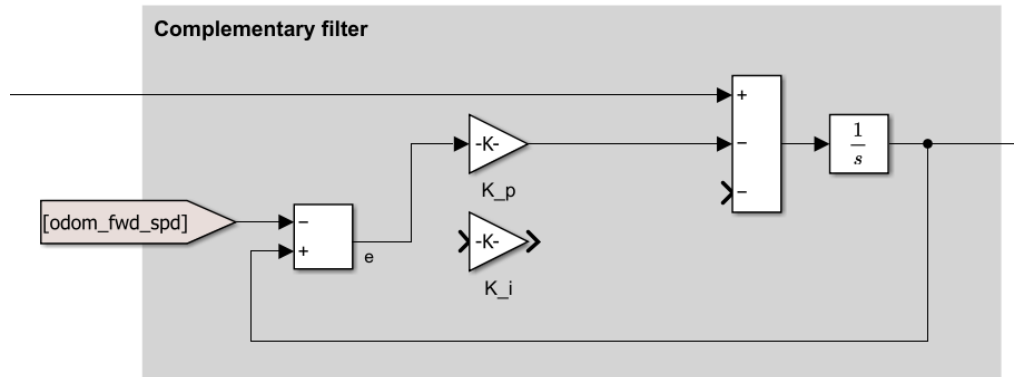

Figure 5: Proportional controller implementation
7. Now you will fuse the estimates from the individual sensors by correcting for the observed error in the accelerometer-based estimate using a proportional controller with the odometry-based estimate as the reference. In the Complementary Filter section, complete the connections shown in Figure 5: connect the output of the integrator to the + input of the first sum block, then apply a gain of K_p to this output before it is subtracted from the original accelerometer measurement. Set the value of K_p to 0.1.